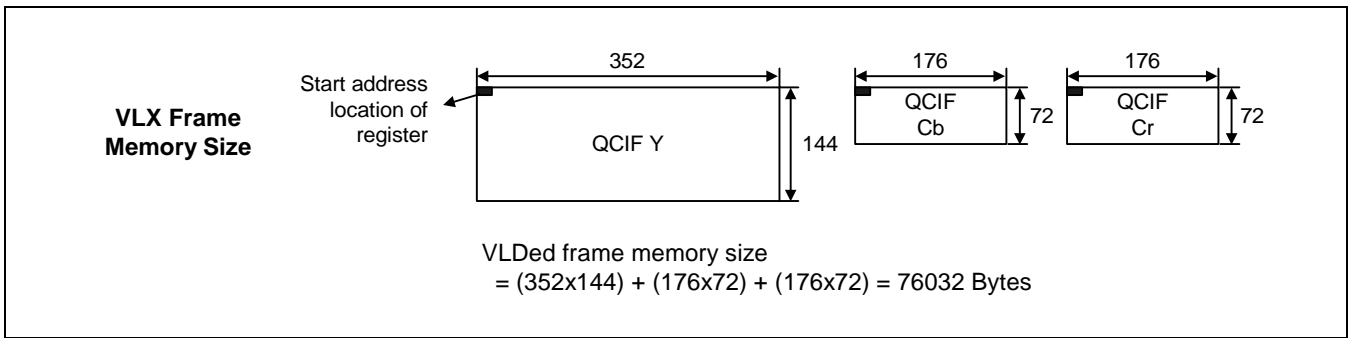

Figure 26-7. External Memory Amount in VLD Mode.
Decoded coefficient data saved external memory Y image, Cb image, and Cr image. Figure 26-7 is example external memory amount. So special function register Y_START_ADDR, CB_START_ADDR, CR_START_ADDR must be set.
- VLD output is saved image format in external memory. Figure 26-7, 26-8 show the external memory